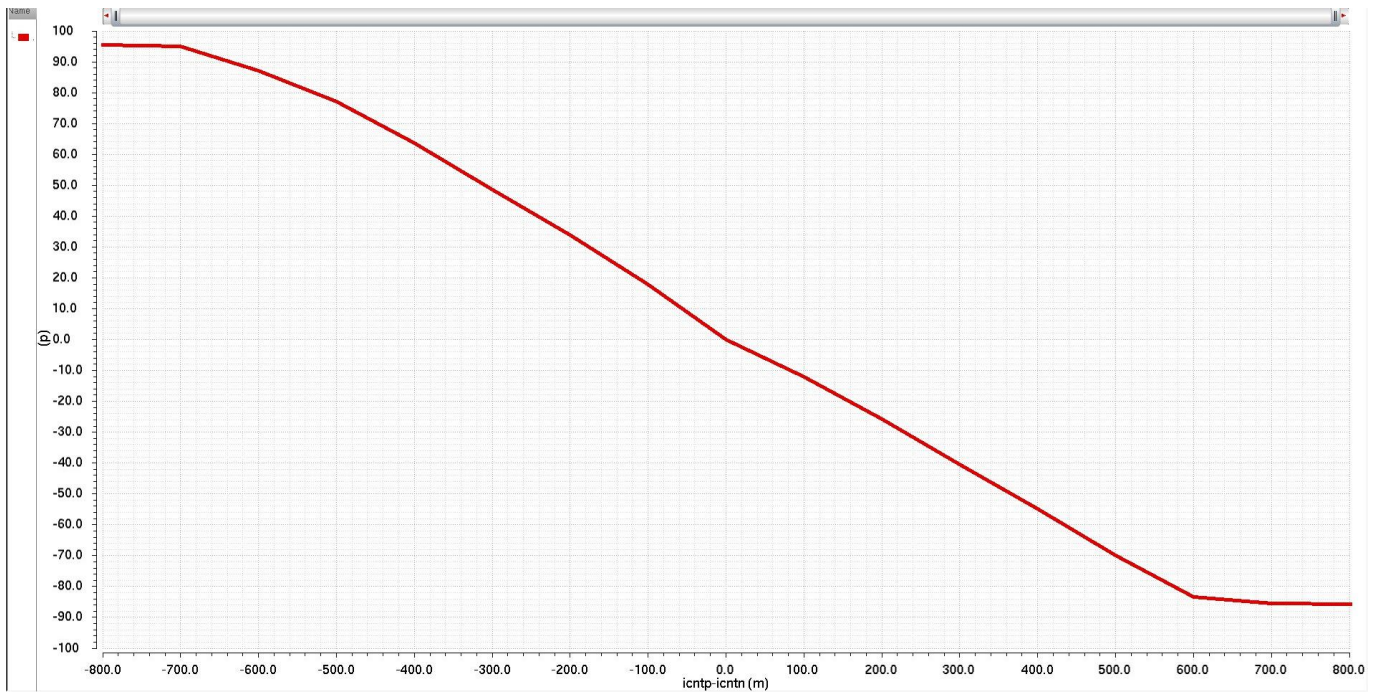

Fig. 2. Delay Control Diagram
The delay is controlled through a wide-band differential tuning port **icntp/icntn**. There are three possible delay control options: (1) apply a differential signal with a certain voltage swing, (2) apply SE signals with the same swing to one or another control input while applying the required DC common voltage to the other input, (3) apply a SE signal with half the swing in turn to one and another control input and keep the other input at its default value of **vcc**. The delay control diagram is shown in Fig. 2.